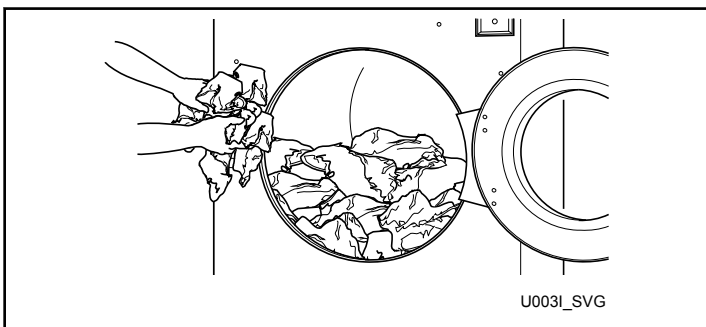

Figure 53
3. Load to capacity whenever possible. DO NOT OVERLOAD. Refer to *Figure 53*.